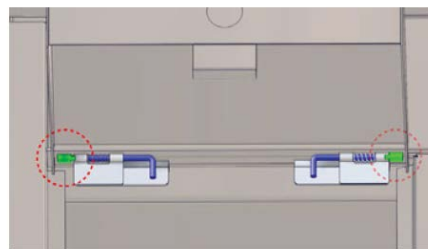

Figure 27: Left - right hinge leaves
4. To reattach the door, push in the hinge pins and fit the top corners of the knee panel door onto the left and right hinge leaves (Figure 27 - circled in red). When the door is refitted, release the hinge pins to secure the door to the sink.